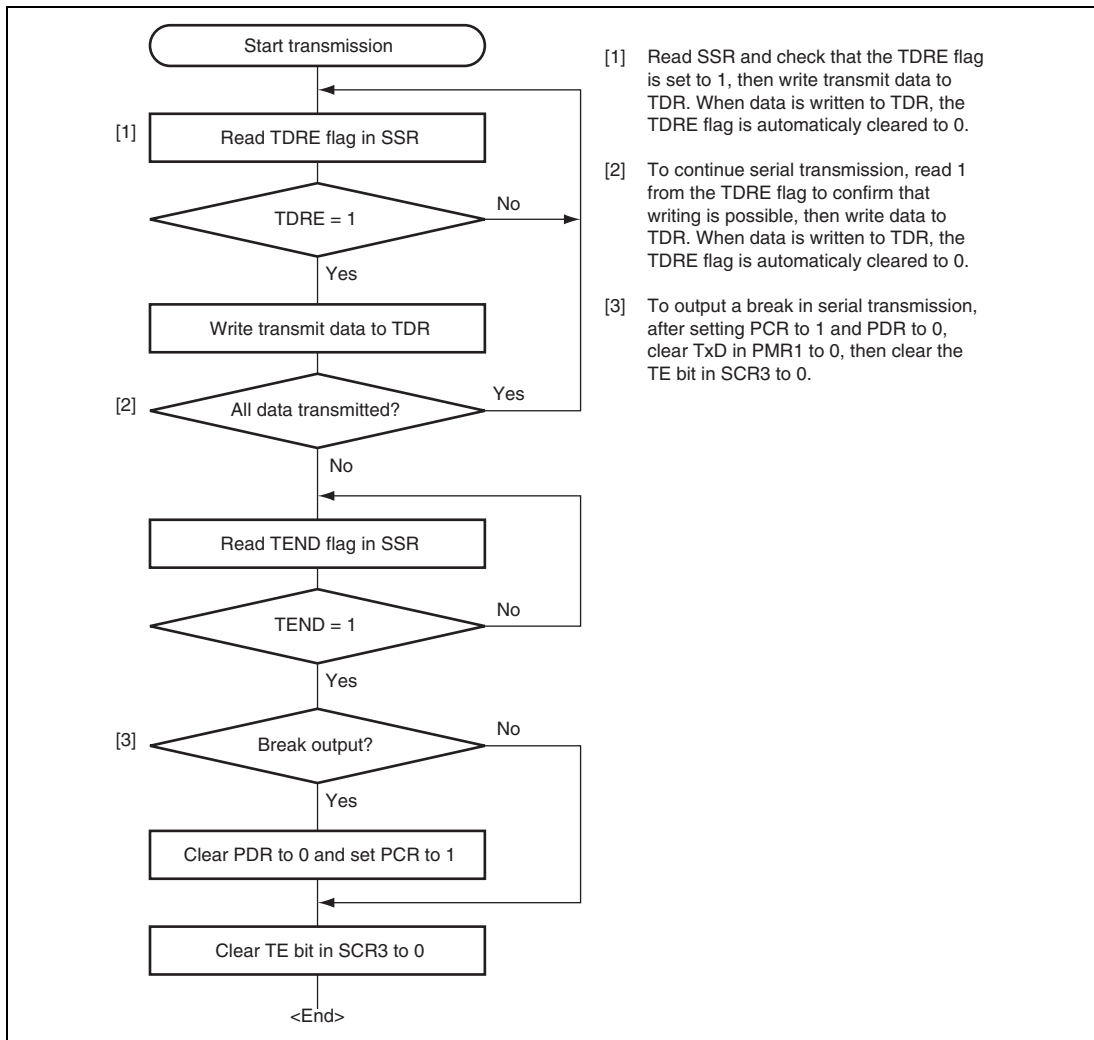

Figure 17.6 Sample Serial Transmission Data Flowchart (Asynchronous Mode)
6. Figure 17.6 shows a sample flowchart for transmission in asynchronous mode.